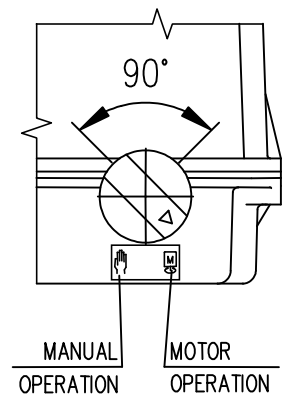

Fig.10
- Turn the button for gear disengagement to the right by 90° (Fig. 10), the button arrow shows the symbol of hand) what disengages the gear in the actuator.